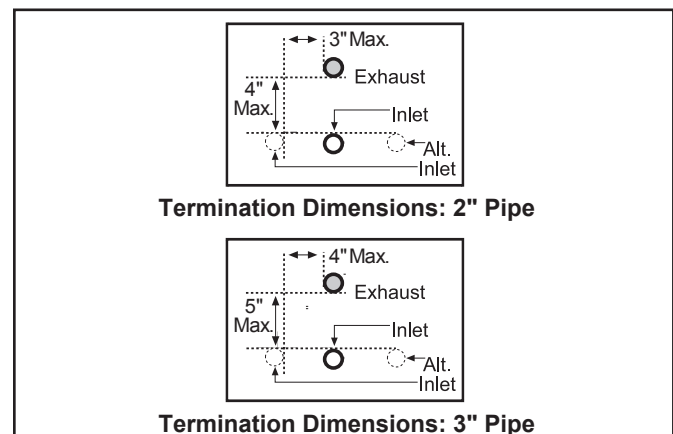

Figure 12. Two- and Three-Inch Pipe Termination Dimensions
When venting one water heater, locate the inlet and exhaust terminations according to **Figure 12** (page 24). When installing more than one water heater. See **Venting Multiple Units** (page 31).
- See *Figure 12* in *Vent Pipe Installation* (page 24) for standard and alternate vent termination dimensions.